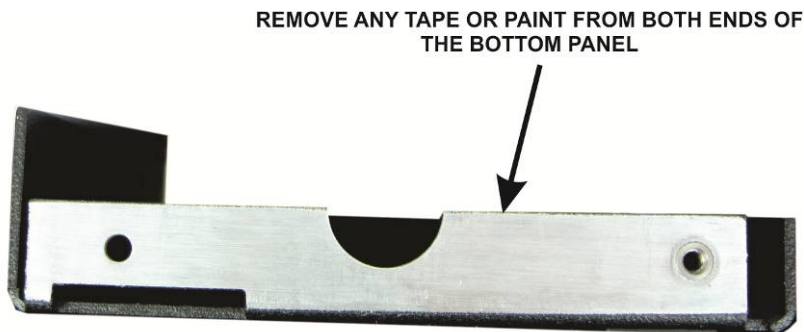

Figure 42. Rear Panel Ends Cleaned.
- Unwrap the bottom panel and clean away tape or paint from each end as shown in Figure 42.